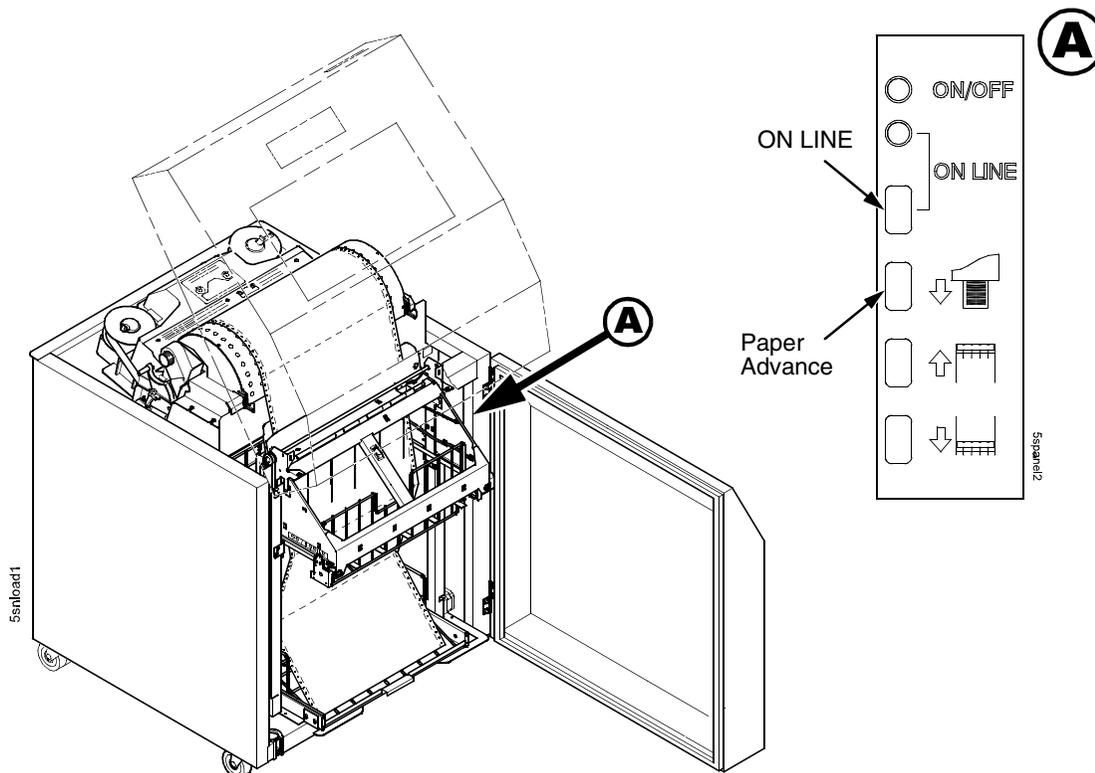

Figure 69. Stacking Paper on the Wire Paper Tent
1. Press the PAPER ADVANCE key and hand feed the paper into the paper throat. Continue to advance the paper until it reaches the wire tent and feed three to five extra sheets in the stacker. Make sure the paper passes through the paper stacker throat. (Figure 69.)
2. Stack the extra pages on top of the wire paper tent, making sure the paper bends with the natural fold. (Figure 69.)